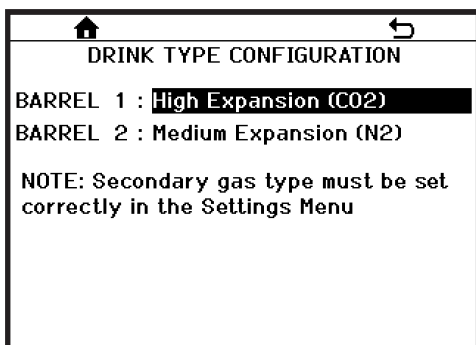

Figure 7.20
- **DRINK TYPE CONFIGURATION:** Used to configure the drink type (medium or high expansion) based on selected gas (Figure 7.20). Settings will only be available on dispensers with universal gas configurations.
- For 372 universal gas dispensers, each of the gas connections will need to be set up with the correct gas: MAIN GAS, GAS #1, and GAS #2. MAIN GAS is the gas that drives the water pump, active charge system, and pneumatic faceplate (for multi-flavor) and can use COMP AIR (compressed air), CO₂, or NITROGEN. GAS #1 (and GAS #2 for multi-flavor dispensers) is the gas that is injected into the product in the barrel(s) and can use CO₂ or NITROGEN. For 372 standard dispensers with universal gas configurations (**Figure 7.18**) the same gas would be injected into both barrel 1 and barrel 2. For multi-flavor universal configurations (**Figure 7.19**), each barrel would have its own gas connection. It is important that the correct gas be selected in order to set up the DRINK TYPE CONFIGURATION (**Figure 7.20**) correctly.
DRINK TYPE CONFIGURATION (**Figure 7.20**) - Once the gas type has been set under GAS CONFIGURATION, the drink type will need to be configured for universal configurations. Since the type of drink available for any given barrel is dependent on the gas that was selected for the barrel, it is very important to make sure the correct gas is selected. The available drink types will also vary by dispenser configuration as shown in the Universal Configuration Drink Types table.